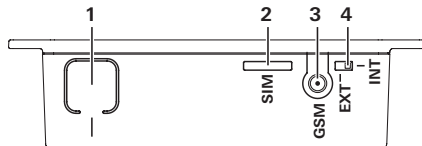

Figure 2 – Top view
Press the button (Figure 2 – 1) for at least 20 seconds. A short flashing of the blue LED indicates – appliances saved and reset done.
- Press the button (Figure 2 – 1) for approximately 1 second.
Press the button (Figure 2 – 1) for at least 20 seconds.